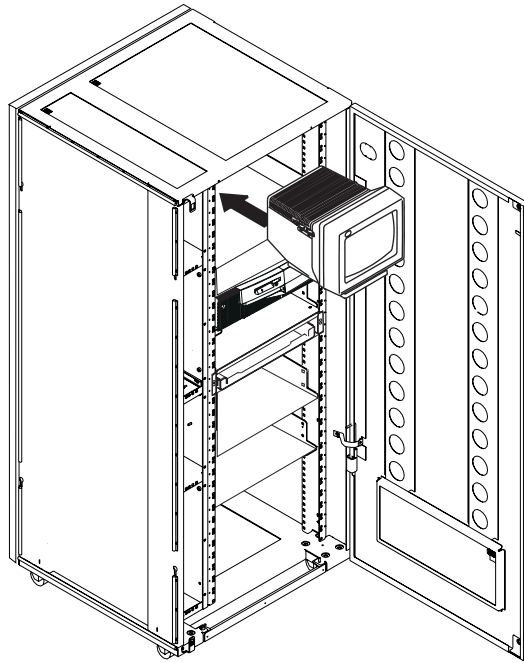

Figure 1-8. Installing the Display in the Controller Expansion (Front Side)
14. Slide the display panel on the top of the controller expansion (see Figure 1-8).